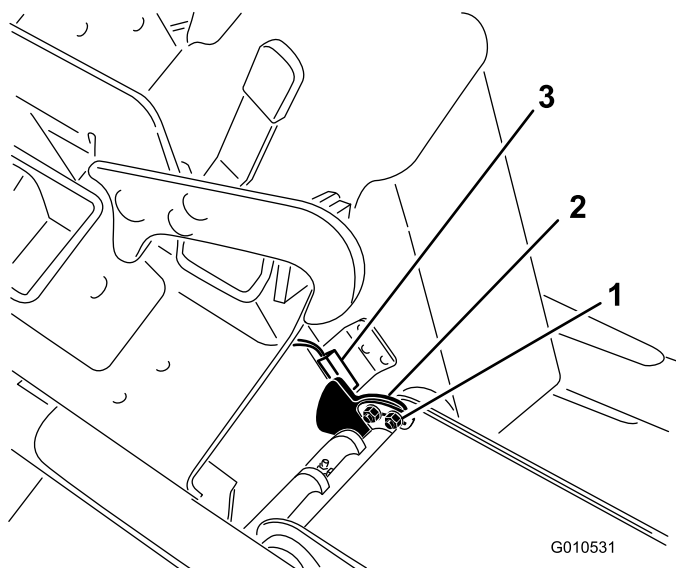

Figure 6
- A. Loosen the fasteners securing the sensor plate to the lift arm (Figure 6).